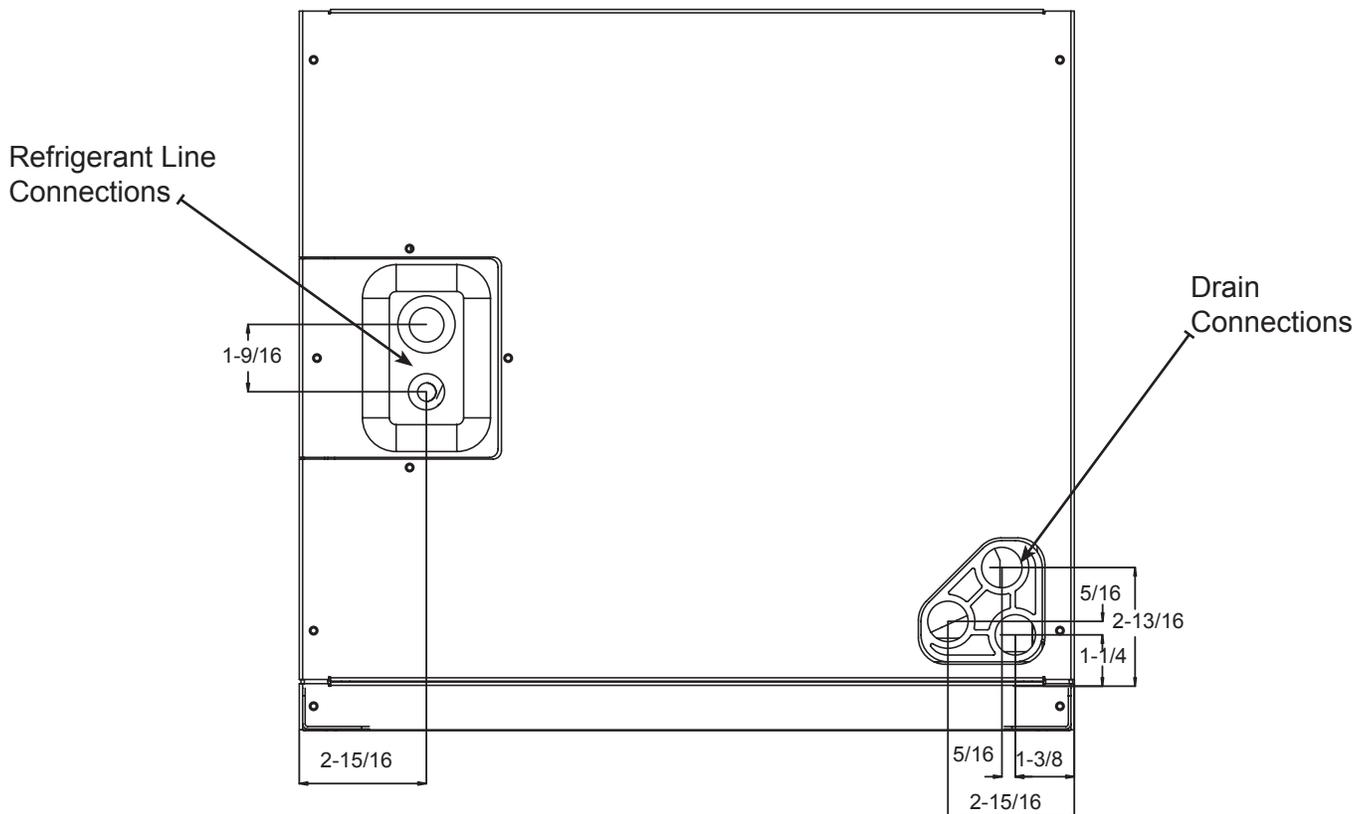

Fig. 2 Coil Connection Dimensions
**Conversion to Vertical Downflow:** A vertical upflow unit may be converted to vertical downflow. Remove the door and indoor coil and reinstall 180° from original position. See Fig. 2~3.